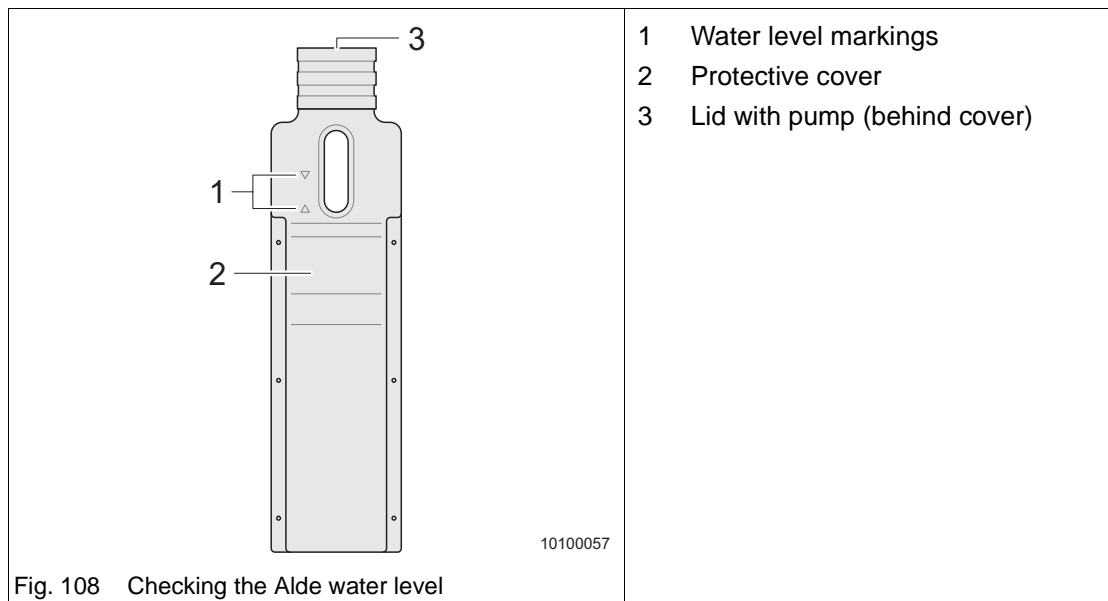

Fig. 108 Checking the Alde water level
- ➔ Check the water level is between the two markings (Fig. 108/1).
- ➔ Remove the protective cover (Fig. 108/2).
- ➔ Unscrew the lid (Fig. 108/3) and remove the lid with circulation pump slowly upwards.